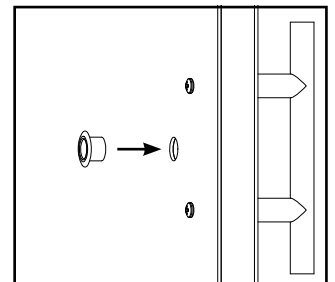

Figure 8. Pre-drilling for Finger Pull
2. Press the finger pull into place as shown in figure 8.